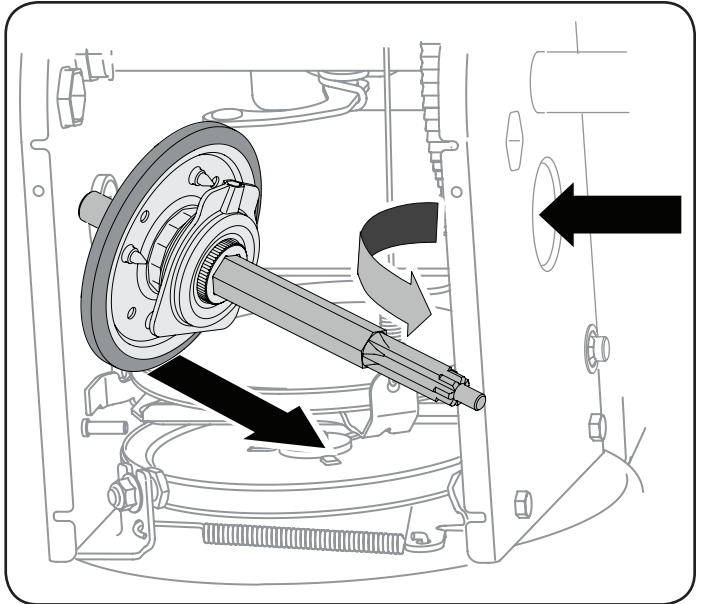

Figure 29
7. Carefully position the hex shaft downward and to the left before carefully sliding the friction wheel assembly off the shaft. See Figure 29.